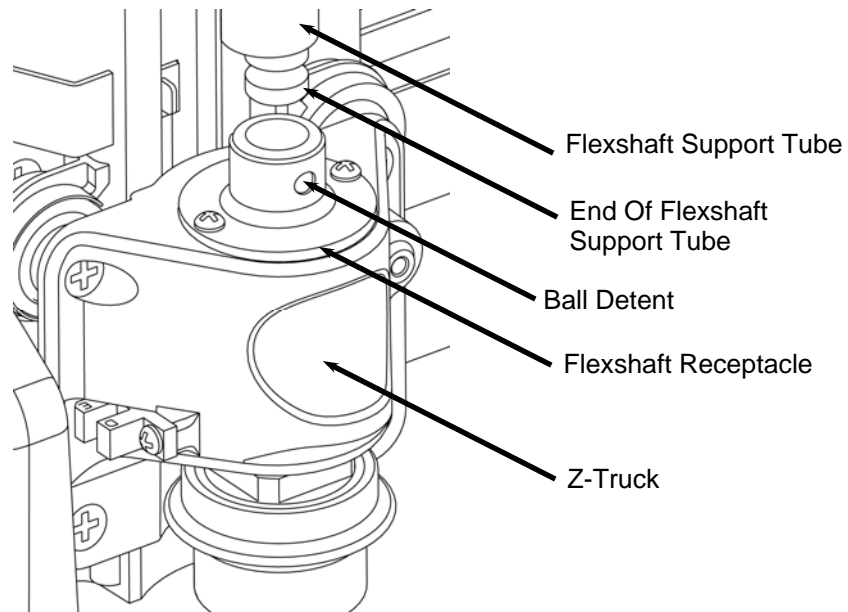

FIGURE 34: VIEW OF THE FLEXSHAFT CONNECTION TO THE Z-TRUCK
2. **Detach the flexshaft from the top of the Z-truck:** The flexshaft assembly is retained by a ball detent located in the flexshaft receptacle (See Figure 34). Firmly grasp the flexshaft support tube while reaching under the clear front cover with your other hand to grab the Z-truck. Pull up firmly on the flexshaft support tube and twist slightly while bracing the Z-truck. **DO NOT PULL ON THE SHEATH.** The flexshaft will pop out of the detent. Wrap the end of the flexshaft in tape so that the core will not fall out and lay the detached flexshaft end to the side.